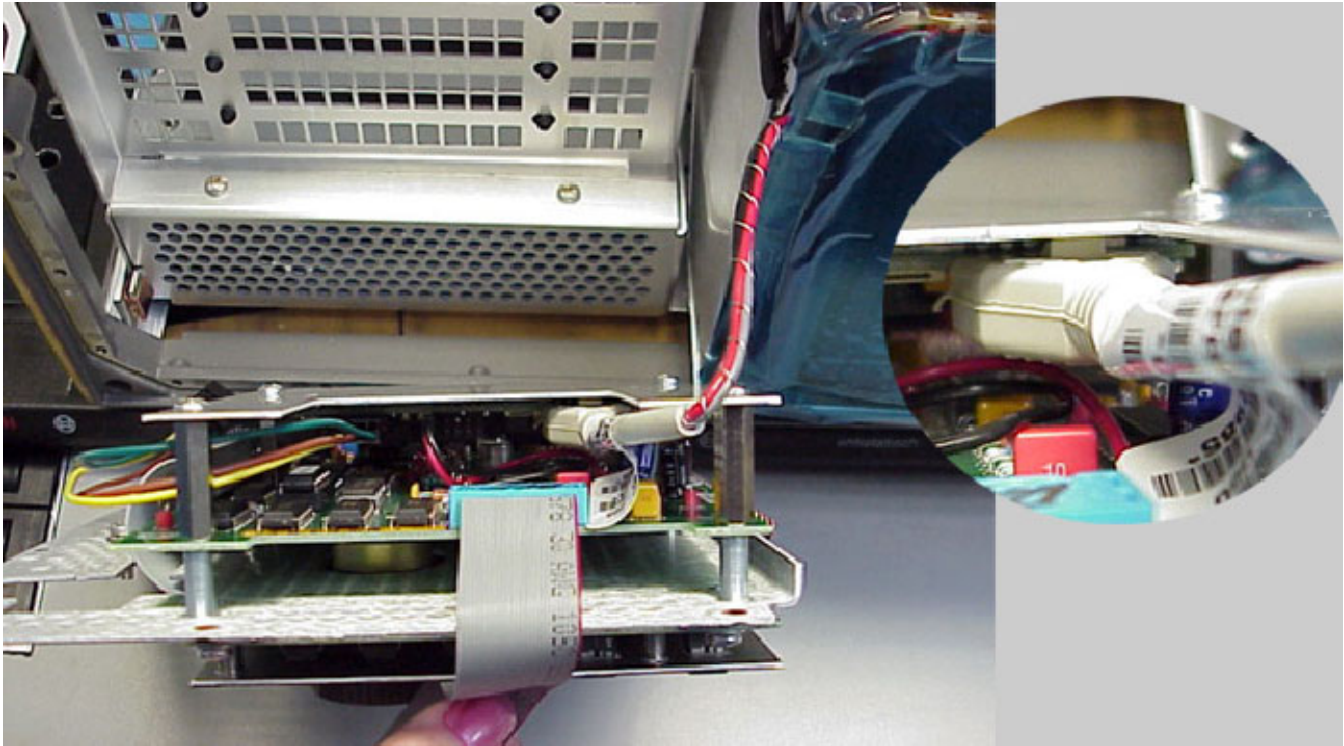

Figure 14: Installing the Keypad board assembly (bottom)
- a. Attach the touch panel cable to P2 on the Touch panel controller board. The key on the plug should be towards the shield. Make sure to route the cable outside of the standoffs. See Figure 14 on page 18.